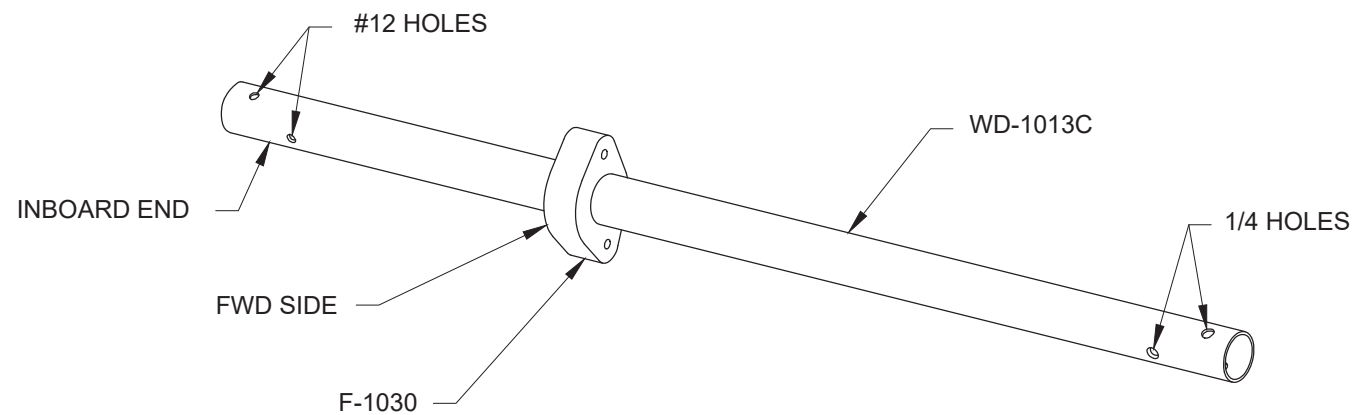

FIGURE 3: PRE-INSTALL UHMW BUSHING
Step 5: Slide one F-1030 UHMW Bushing onto each WD-1013C Flap Torque Tube as shown in Figure 3. This UHMW bushing will eventually be positioned to the inboard side of the system.
This will form the Right and Left Subassemblies. The Left Subassembly is shown in Figure 3.